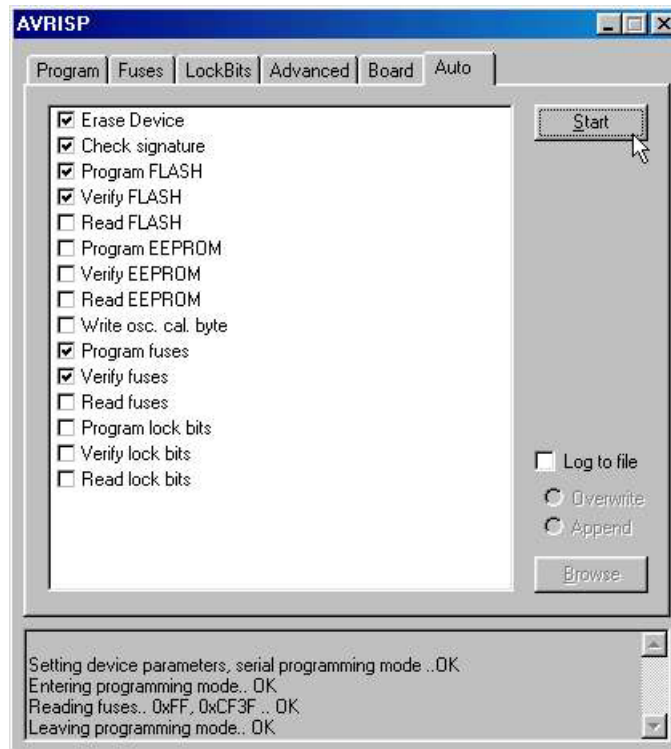

FIGURE B-10: AVR ISP CONFIGURATION USING AVR STUDIO
- D7) Configure the programmer to check signature, erase device and reprogram with verify Flash memory and configuration bits, like indicated in figure B-10.
- D8) Perform the programming sequence by pressing button "Start" indicated in figure B-10.